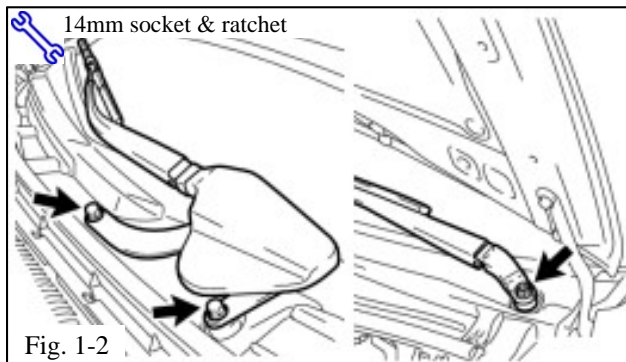

Fig. 1-2
- (2) Remove the 2 nuts and pull the wiper arms off of the wiper drive studs (Fig. 1-2).